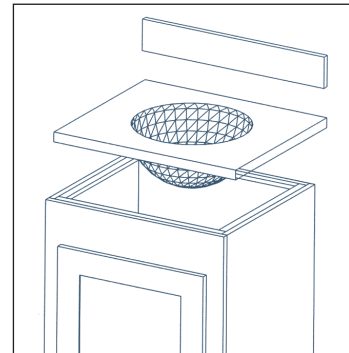

Figure 2
5. Carefully lower the top onto the vanity cabinet, making sure that the shims stay in place. See Figure 2.